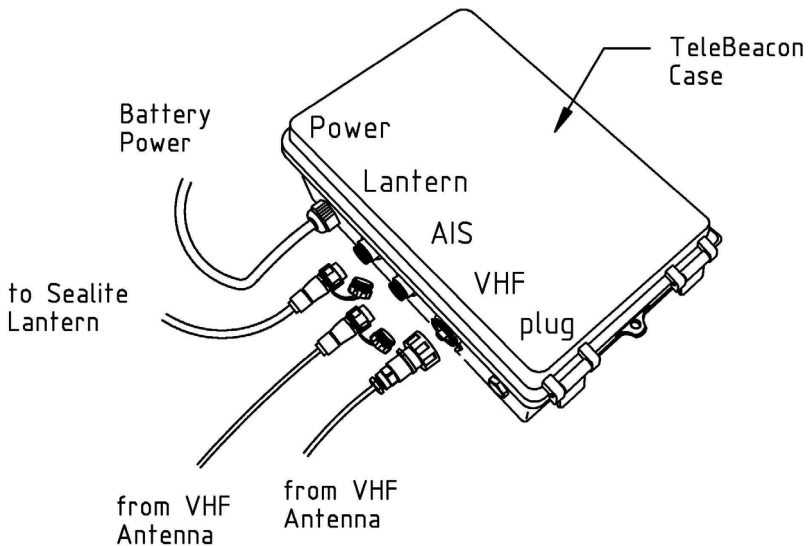

Figure 3: Lantern & Antenna Cables
- Check the cable running from the GPS antenna, AIS antenna and SL125 Lantern are connected connected to the AIS Telebeacon Case. See Fig 3 for details.